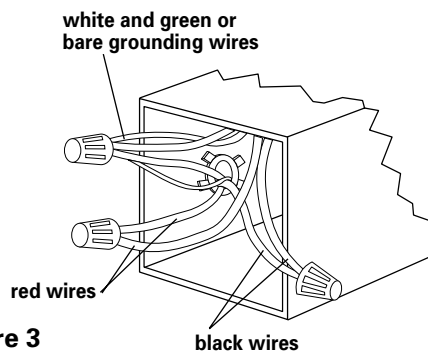

Figure 3
9. Connect the cooktop white and green or bare grounding wire to the neutral (white) wire and bare grounding wire in the appliance cable. See Figure 3.